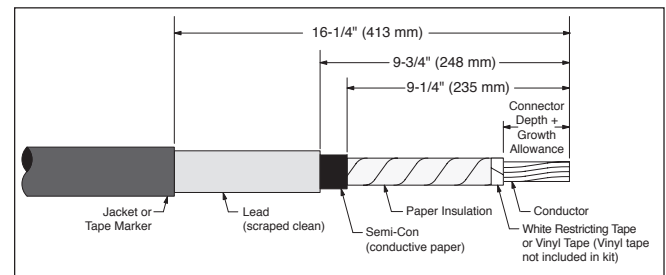

Figure 2
- 2.1 Scrape lead clean prior to removing. Prepare cable according to *Figure 2*.